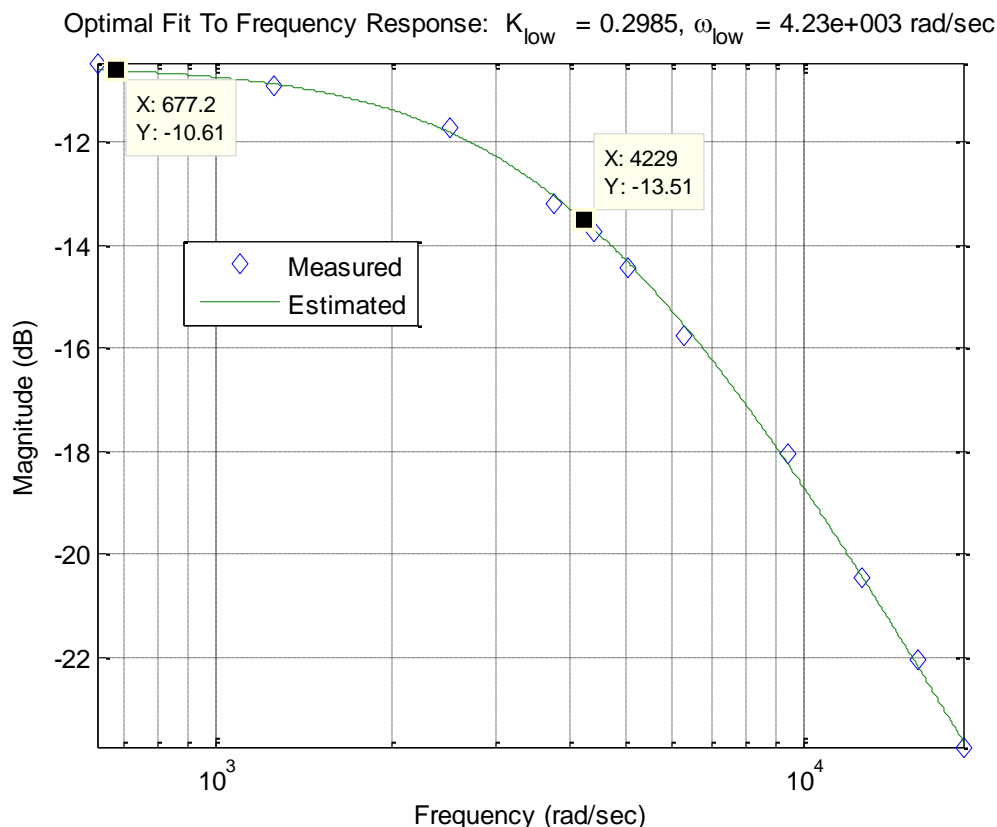

Figure 3. The lowpass filter with a bandwidth of approximately 4230 rad/sec (673 Hz).
c) Now we will fit the data to our model using the program **model\_low.m**. The arguments to this file are the data array from part b, the estimated amplitude of the gain, and the estimated value of the cutoff frequency. In the Matlab command window type **model\_low( data, 0.3, 500\*2\*pi);** You should get results similar to that shown in Figure 3. Click on the Datatip icon (just below Desktop) so identify points on the graph. Once you have identified the maximum value, you may have to use a right click and create a new data tip (it usually helps if you right click when you are on a current datatip). You can fine tune your datatip locations by using the cursor keys on your keyboard. Your data points should be from the peak value to a value 3 dB lower. Include this graph in your memo. Be sure your graph has two datatip points.